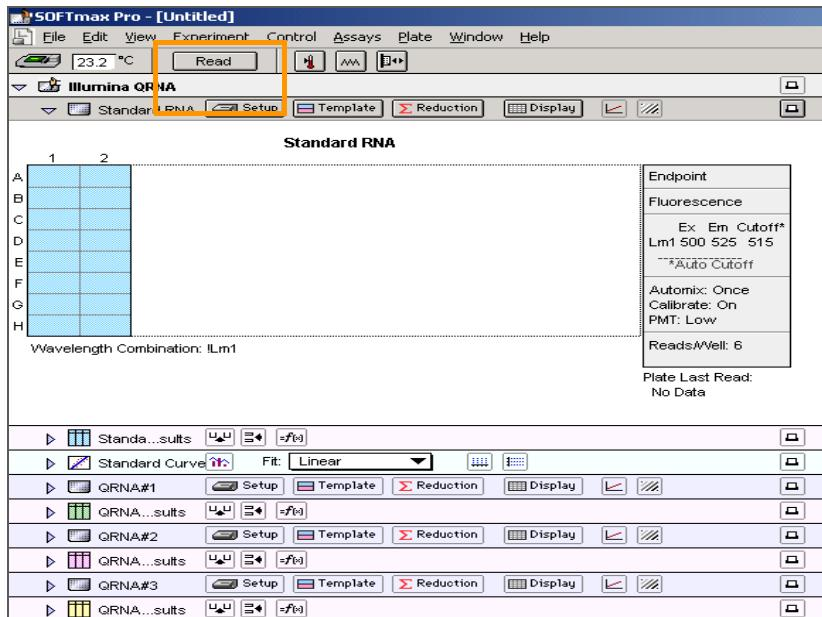

Figure 16 Read Standard QDNA Plate
7. Click **Read** in the SoftMax Pro interface (Figure 16) to begin reading the Standard QDNA Plate.